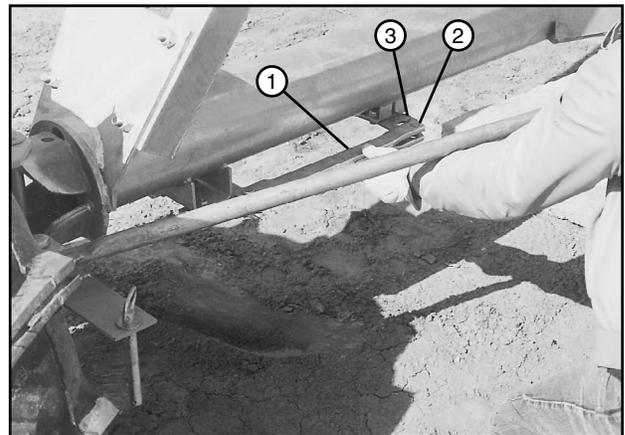

Figure 49-3 1. Tow Link Bar
11. Rotate each tow link bar into the tow link carrier until the carrier spring latches into the hole in tow link bar. See Figure 49-3.